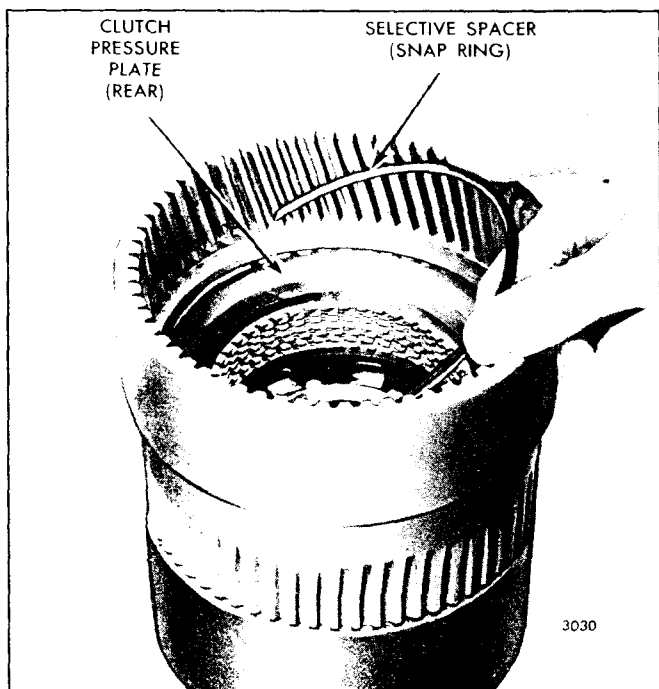

Fig. 64 - Installing Forward Clutch Selective Spacer (Snap Ring) in Ring Gear
- d. Release the load off of the clutch plates and remove the steel plate from inside the ring gear. Then install one of the selective spacers (snap rings) in the snap ring groove between the rear face of the rear pressure plate and the shoulder of the snap ring groove as shown in Fig. 64.